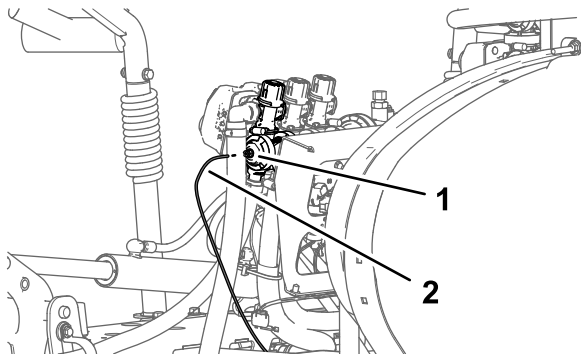

Figure 29
1. Press in the collar for the tube coupler in the end cap of the right boom-section valve (Figure 29).
2. Pull the pressure-sense tube for the dash gauge out of the tube coupler (Figure 29).